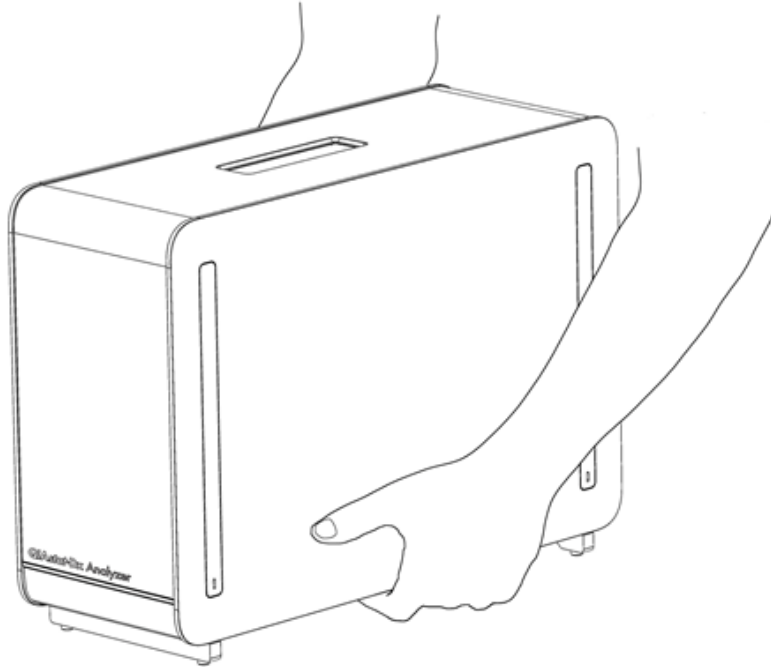

Figure 14. Proper handling of Analytical Module.
**Note:** The Analytical Module must be lifted and handled by taking it from the base with two hands, as shown in Figure 14.